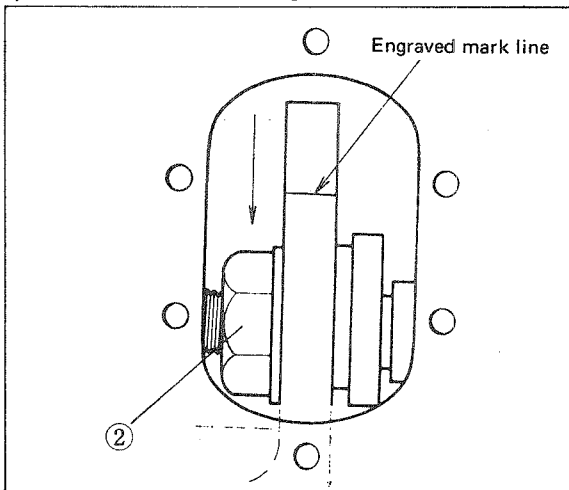

Fig. 13
(4) Changing the differential feed ratio (Fig. 13 & 14)
- a) The maximum gathering ratio at 1 : 4 is obtained by setting the engraved mark line to the lowest position (Fig. 13).